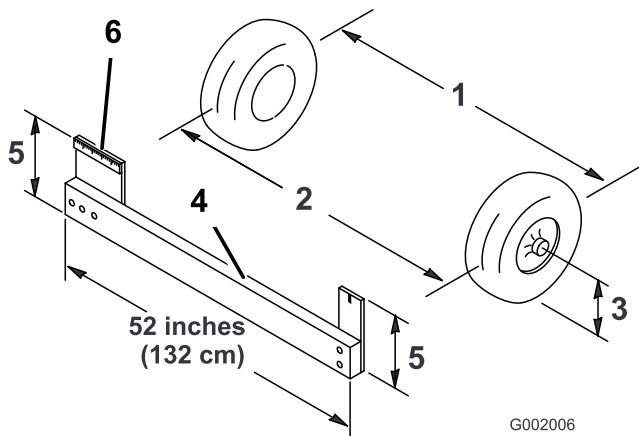

Figure 61
4. Measure the distance between both of the front tires at the axle height at both the front and rear of the front tires (Figure 61). A fixture or alignment gauge is needed for the rear measurement of the front tires at axle height. Use the same fixture or alignment gauge to accurately measure the front of the front tires at axle height (Figure 61).